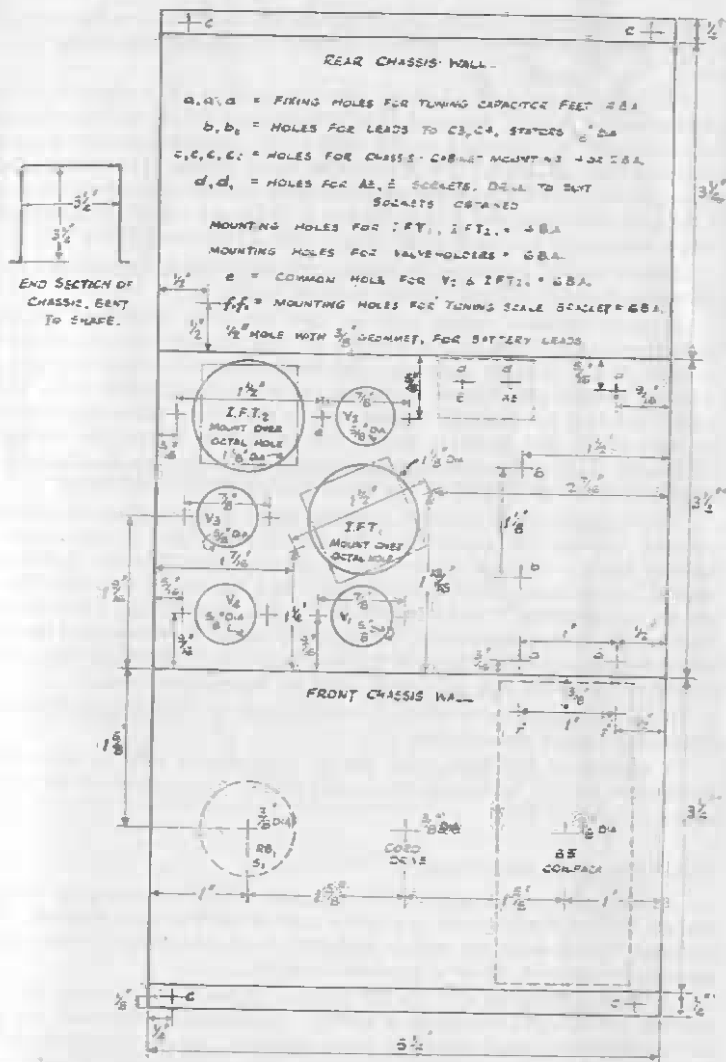

Fig. 8. Chassis Details for the Home Midget Battery Receiver
- Chassis, cut and bend from sheet aluminium. $5\frac{1}{2}" \times 3\frac{1}{2}" \times 3\frac{1}{2}"$ high. See Fig. 8.
Cut the chassis from sheet aluminium and, before bending down the $3\frac{1}{2}"$ walls, drill as shown in Fig. 8. The high walls to the chassis permit the B5 coilpack to be mounted below the tuning capacitor in the vertical position so that little chassis space is taken up by the coilpack. The pack is mounted so that the adjusting screws of the trimmers and coil cores are to the right, and thus readily accessible at the right-hand end of the chassis.